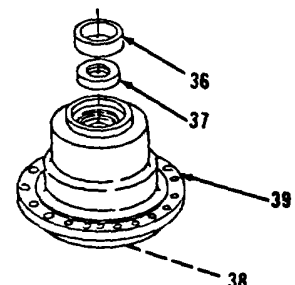

Figure 5-140.
1. Lower temperature of new cup (38) and install in housing (39, Figure 5-140).
2. Lubricate new seal (37) with oil and install with lip of new seal (37) toward new cup (36).